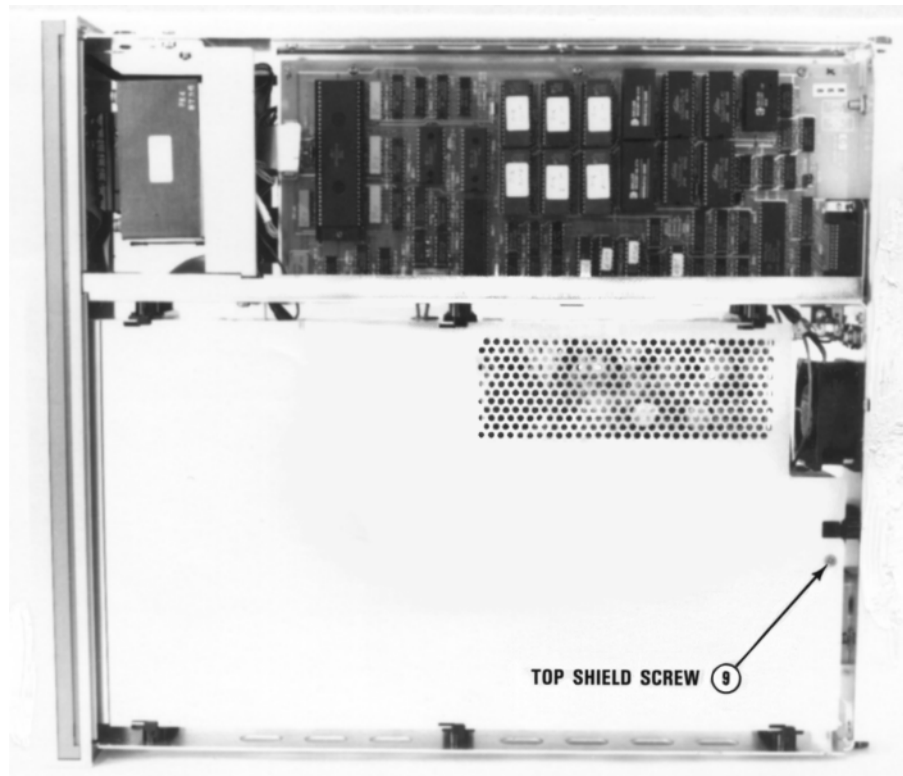

Figure C-7 3458A inside top view
- 1** Refer to Figure C-7. Turn the instrument over so its bottom sits on your work bench.
- 4** Refer to **Figure C-7**. Replace the top shield. Line up the slots on the shield with the shield retainers. Then push the shield toward the front of the instrument until the shield screw hole lines up with the hole in the chassis. Use the #TX 10 Torx driver to reinstall the shield screw.